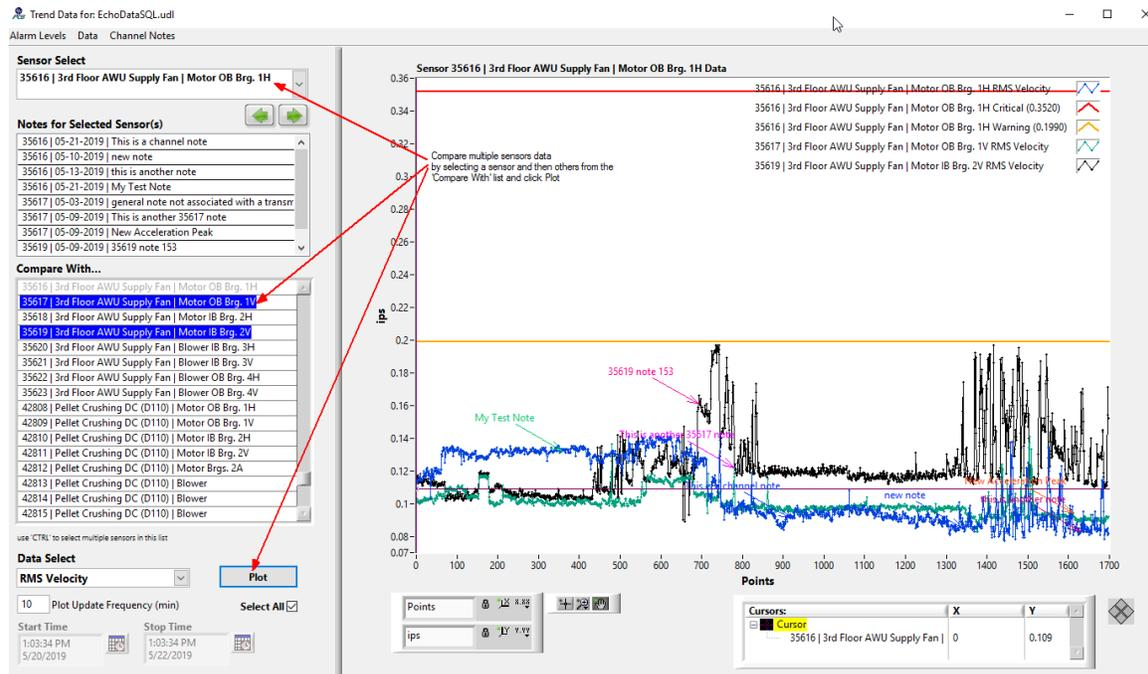

Figure 109 – Echo[®] Sensor Data Trend Screen
- **Trend Plot** button. Activation of this button brings up the screen shown in Figure 109 which provides a graphical representation of the data and the ability to compare it with other sensors.
Activation of the Trend Plot button from the history screen will bring up the display shown in Figure 109 below. This action will also occur if the **Plot...** option from the **Historical Data** screen menu bar is selected or the **Advanced Plot...** item is selected from the main screen Channel List short cut options.